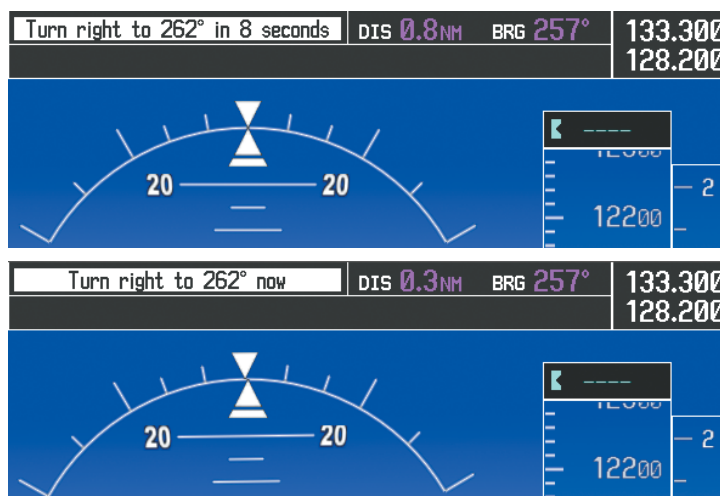

Figure 5-123 Turn to Intercept V244
- 8) At SLN, Victor Airway 244 (V244) is intercepted. Turn prompts are displayed in the PFD Navigation Status Box as seen in Figure 5-123.